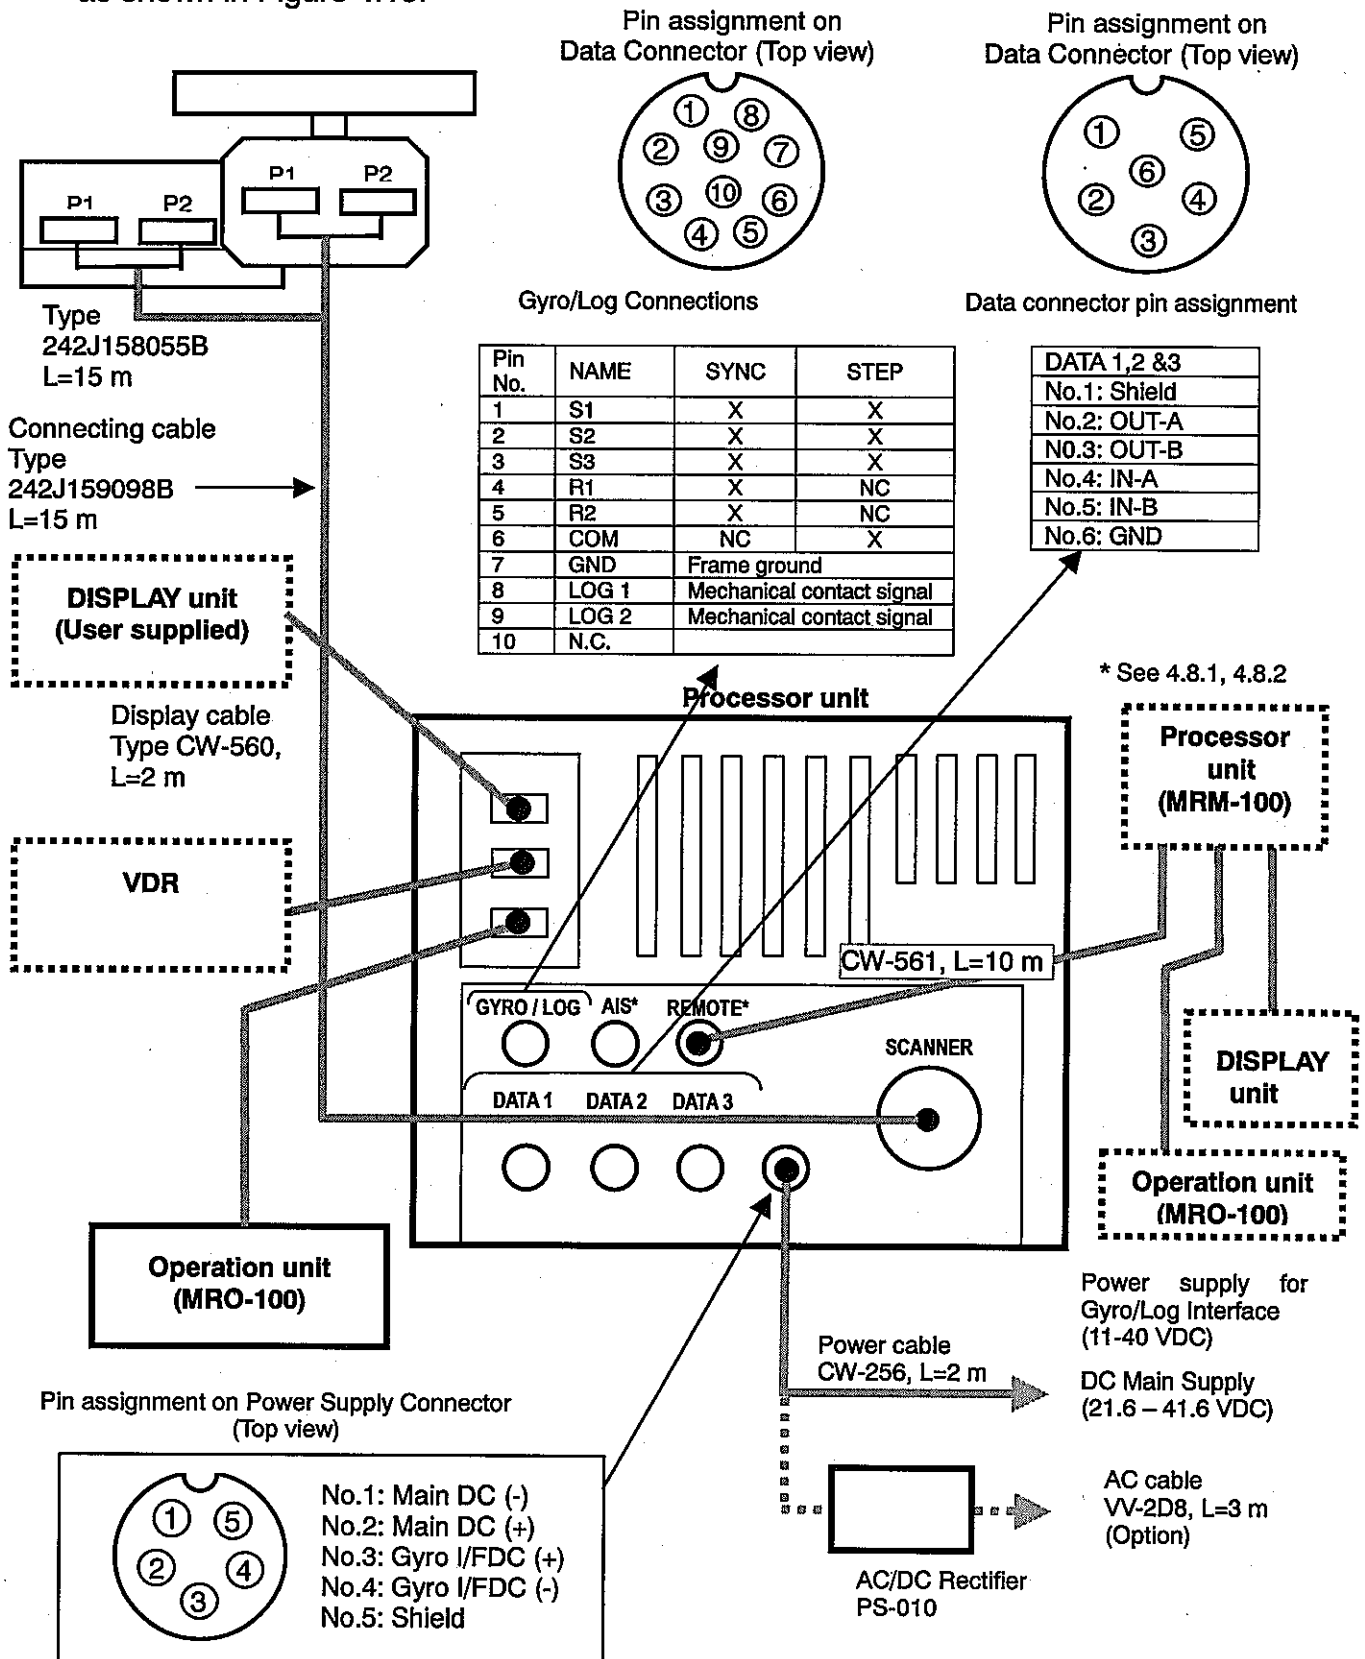

Figure 4.15 Cable connections on the Display Unit
- (1) Remove the mounting bracket from the Control Box.
- (2) Remove a screw cover, which is fitted on each corner of the Control Box front face.
- (3) Put the Control Box and connecting cable into the aperture and connect the cable to the Processor unit at the specified receptacle. (Refer to Figure 4.15)
- (4) Fasten the Control Box to the panel using a 4 mm tapping-screw. (4 positions)
- (5) Refit the screw covers removed in step (2).
Connect the antenna cable, power cable and the data cable to the designated sockets as shown in Figure 4.15.